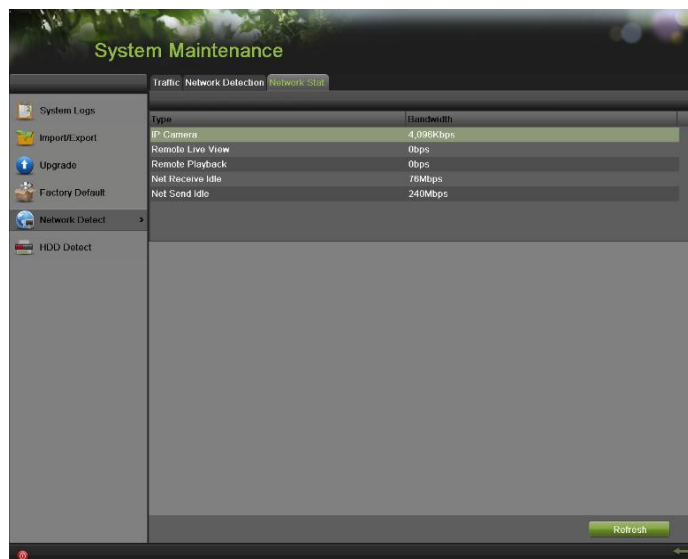

Figure 179 Network Stat. Interface
2. Select the Network Stat. tab to enter the Network Stat. menu, as shown in Figure 179.